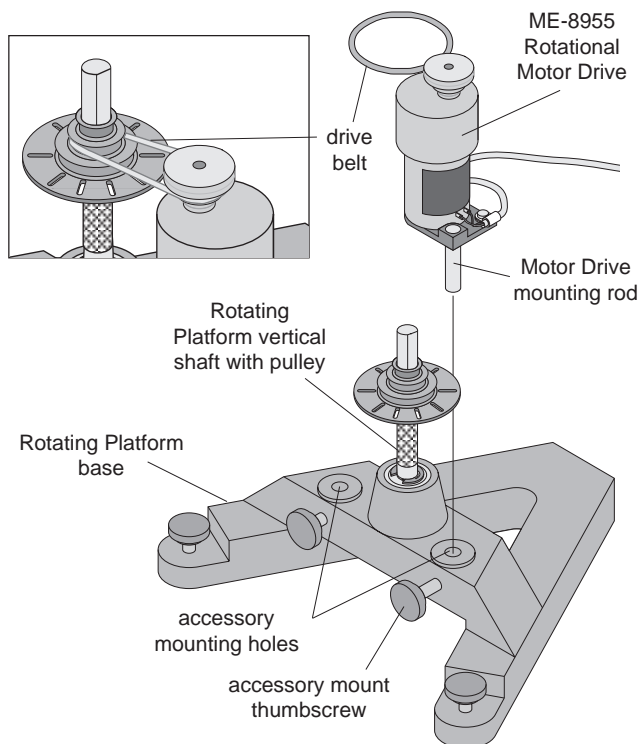

Figure 1: Rotational Motor Drive Assembly
- ① Insert the motor Mounting Rod into one of the accessory mounting holes on the Rotating Platform base. Note orientation of Rotational Motor Drive. See Figure 1.
- ② Loop the drive belt around the Rotating Platform vertical pulley and one of the three Motor Pulleys. See inset of Figure 1.